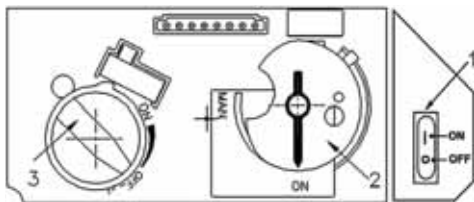
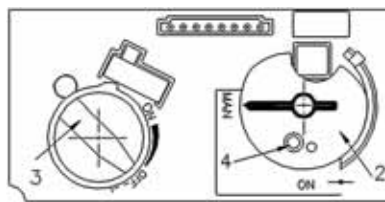
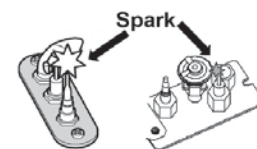

Fig 1
Fig 2
Fig 3
2. SET ON/OFF SWITCH (1) TO "OFF" POSITION.
- Wait five (5) minutes to clear out any gas, then smell for gas, including near the floor. If you smell gas, STOP! Follow "B" in the safety information above on this label. If you don't smell gas, go to the next step.
3. AUTOMATIC IGNITION (fig. 1): Locate the pilot (fig 3.) inside of firebox at Left Hand side.
- ON/OFF switch (1) in ON position, MAN-knob (2) in ON position; set Flame Adjustment knob (3) to lowest setting (U);
- When the pilot is lit, the Flame Adjustment knob (3) will automatically rotate to the highest setting.
4. MANUAL IGNITION (fig. 2): With the window off, locate the pilot (fig. 3) inside of firebox at Left Hand side;
- ON/OFF switch (1) in ON position, MAN-knob (2) in MAN position;
- Set Flame Adjustment knob (3) to the lowest setting (U);
- Push down the metallic core (4) with a pen or similar instrument; this will establish the pilot gas flow;
- Light gas at the pilot (5) with a match;
- Continue holding down metal core (4) for about 10 seconds; after release, pilot should remain lit;
- If the pilot will not stay lit after several tries, turn the gas control knob (3) to "OFF" (U) and call your local service technician or gas supplier.